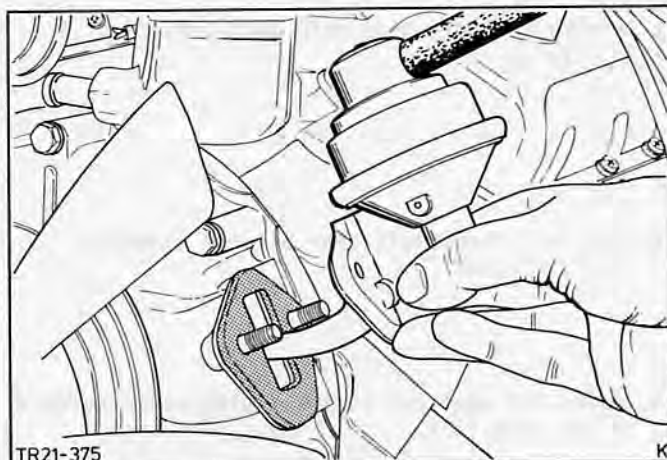

Fig.112. Fit fuel pump.
21. Fit crankshaft belt pulley and tighten bolt to specified torque. Fit fuel pump, Fig.112.